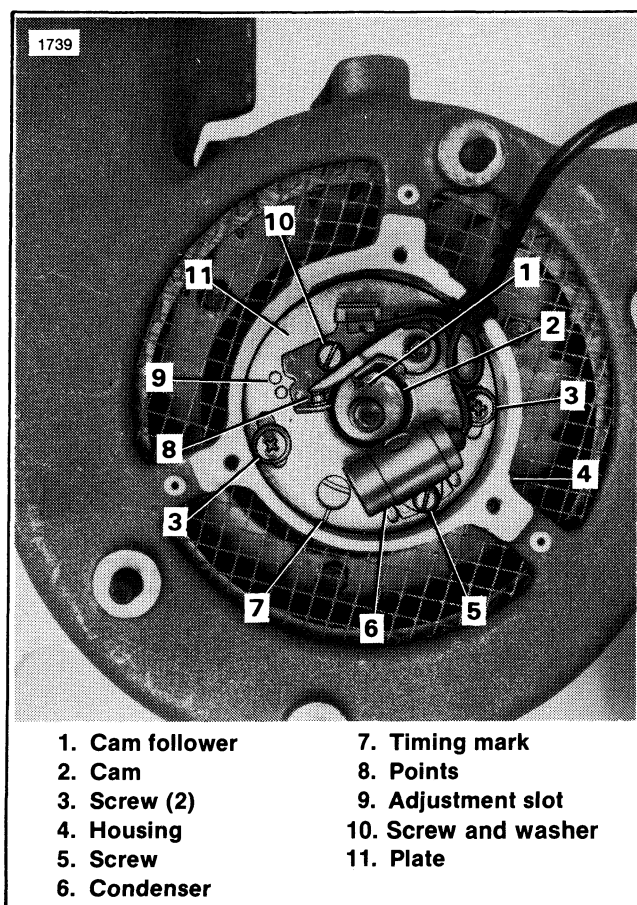

Figure 8-17. Circuit Breaker
3. See Figure 8-17. Remove condenser and coil wires from point set terminal.
4. Remove lock screw and washer (10).
(Figure 8-17)
IGNITION TIMING (Figure 8-17)